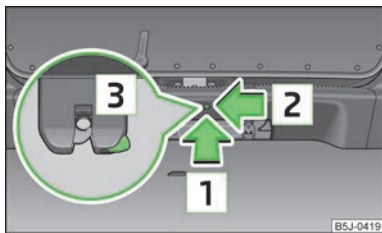

Fig. 18
- Insert a screwdriver or similar tool into the opening in the trim in the direction of the arrow **[1]** » Fig. 18 as far as the stop.